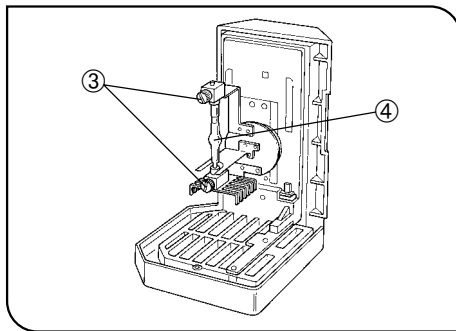

Fig. 14
3. Place the socket section upside down as shown in Fig. 14.